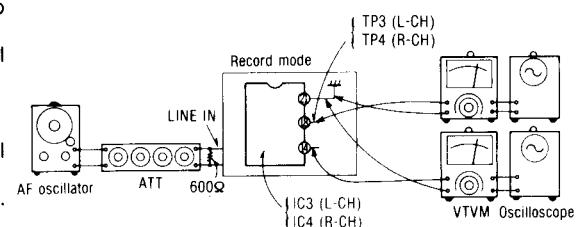

Fig. 18
- 1. Make connections as shown in fig. 18.